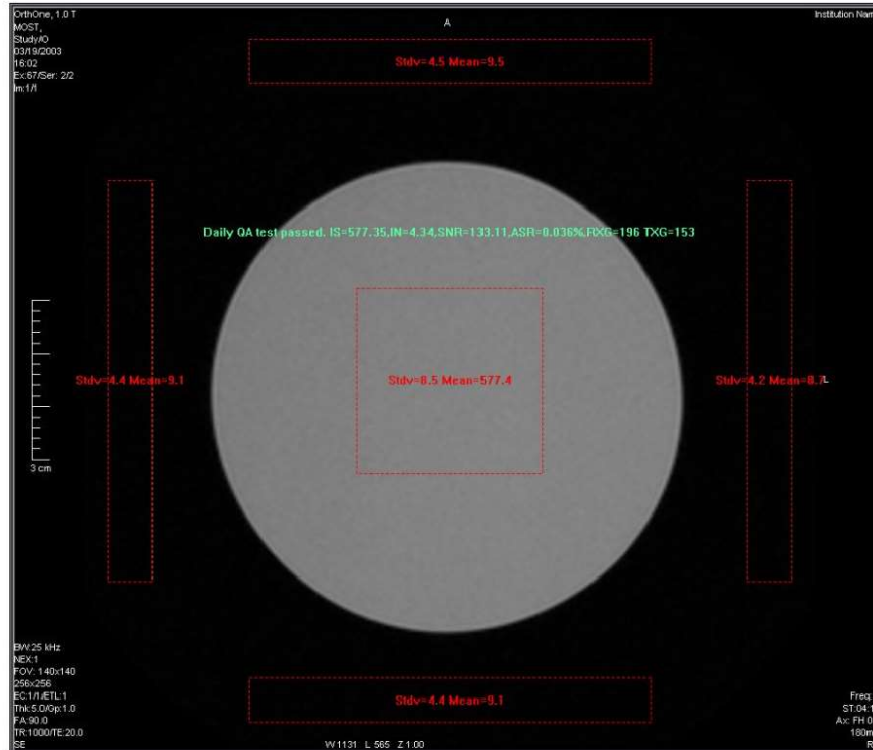

Figure 1: Example of SNR image in Scan Display using the 180mm RF coil
2. In the resulting image (viewed from the 2D Viewer or Scan Display), a summary line will be displayed (refer to Figure 1). Record the following values:
- » Signal Mean (IS)
As an example, from Figure 1,  $A=577.4$ ,  $B=(4.4+4.2)/2=4.3$ ,  $C=(4.5+4.4)/2=4.45$ ,